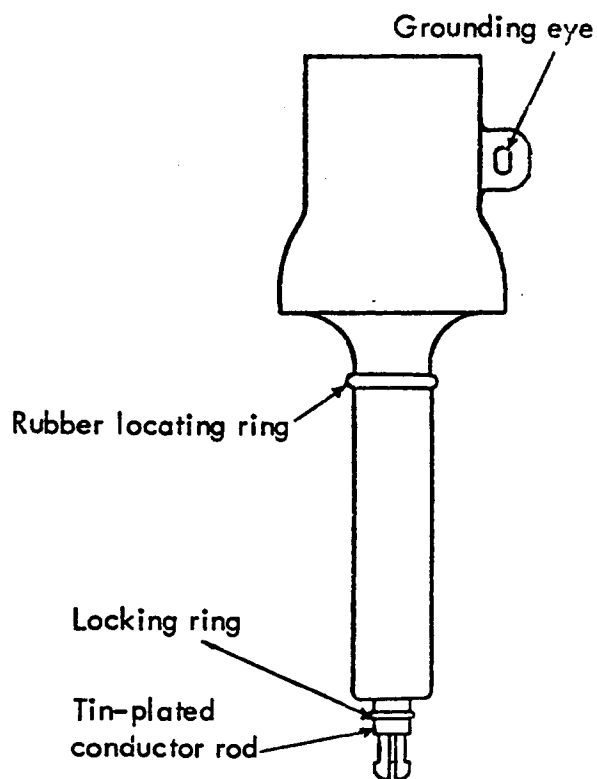

Fig. 3. Insulating plug assembly
- 1 Insulating Plug (Fig. 3) — Cat. No. 9930877G1. For use in a three-CT/two-VT installation to plug the unused potential terminal in the third CT.
7. In a three-CT/two-VT installation, an insulating plug, Cat. No. 9930877G1 (Fig. 3), is provided for the unused potential terminal on the third current transformer in this installation. Insert this plug into the potential terminal in the same manner as the elbow described above.